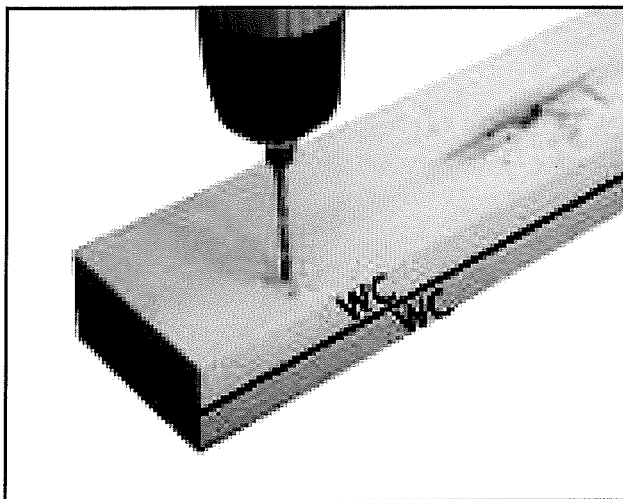

Fig A2
10. Place the other **WC** part underneath and drill through both pieces with a 3mm drill (fig A2).